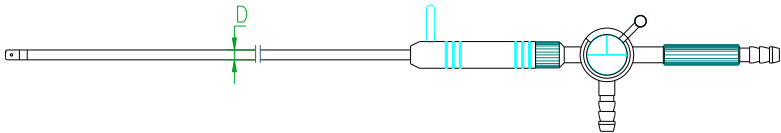

Fig.5 Structure diagram of Monopolar Suction&Irrigation
E. The outline structure and basic dimensions of Monopolar Suction&Irrigation are shown in Fig.5 and Table 5.